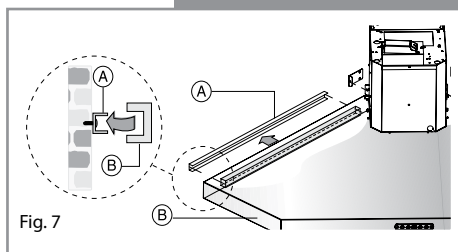

Fig. 7
3. With the help of another individual lift the appliance and slot it into the support rails (A), as shown (Fig 7)